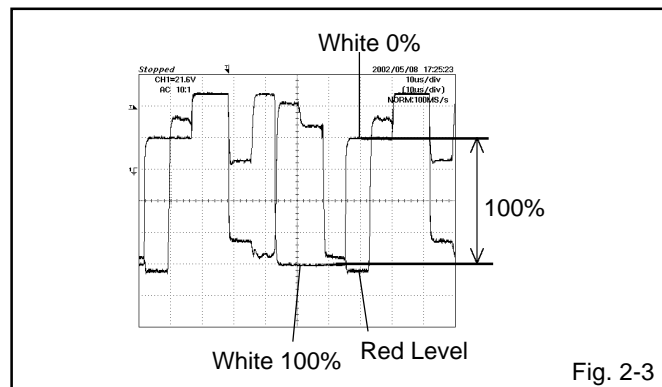

Fig. 2-3
6. Press the VOL. UP/DOWN button on the remote control until the red color level is adjusted to $110 \pm 10\%$ of the white level. **(Refer to Fig. 2-3)**
12. Press the VOL. UP/DOWN button on the remote control until the red color level is adjusted to $110 \pm 10\%$ of the white level. **(Refer to Fig. 2-3)**